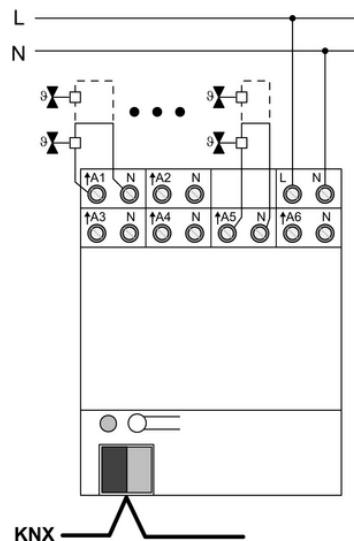

Figure 2
- Connect the outputs according to connection diagram (Figure 2).
- Connect the mains voltage (Figure 2).